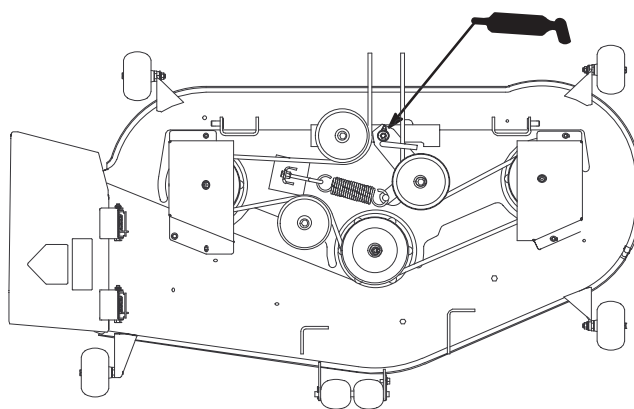

Figure 31
2. Grease the idler pulley pivot (Fig. 31).